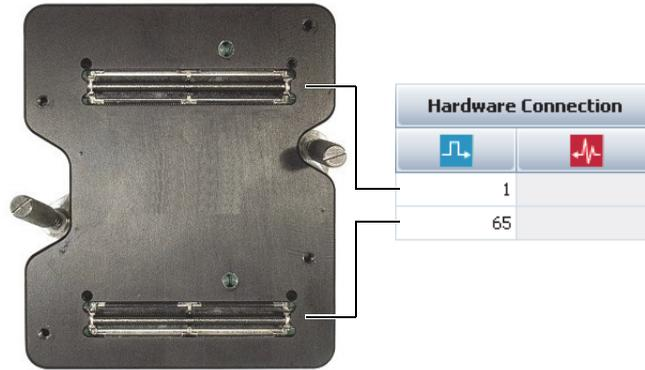

Figure 9-31 Example pulser and receiver configuration for two 128-element probes
- Two phased array probes will be connected to a splitter box (such as the OMNI-A-ADP05 shown in Figure 9-31 on page 135) for measurement in a symmetric configuration.
In this case, you need to separately calculate the beams for each probe using the same values for all the NDT SetupBuilder parameters, with the exception of the **Pulser connection** and **Receiver connection** parameters. The **Pulser connection** and **Receiver connection** parameters for a given probe must have the same value. If you are working with 128-element probes, the value can be set between 1 and 64 for the first probe and between 65 and 128 for the second probe (see Figure 9-31 on page 135).